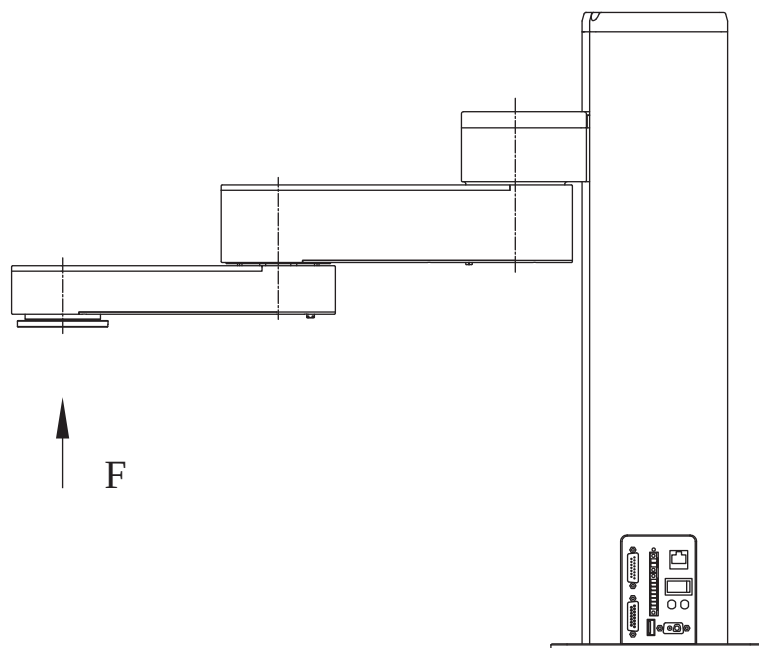

Figure 10
The external force of the Z axis shall not exceed 110N (as shown in Figure 10).
5.Power cable hot-plugging forbidden. Warning when the positive and negative poles of the power supply are reversed (as shown in Figure 10).